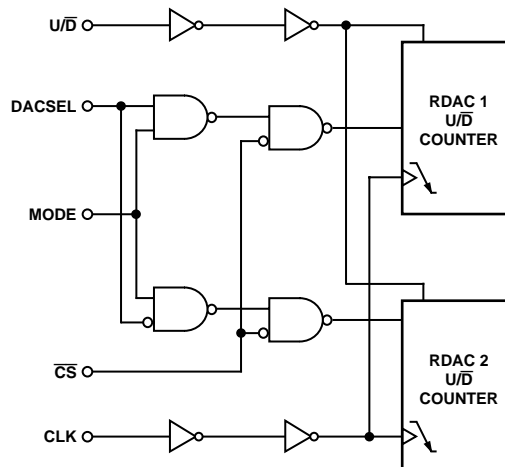

Figure 30. Detailed Digital Logic Interface Circuit
The AD5222 contains a push-button controllable interface. The active inputs are clock (CLK), $\overline{\text{CS}}$ and up/down ($\text{U}/\overline{\text{D}}$). While the MODE, and DACSEL pins control common updates or individual updates. The negative-edge sensitive CLK input requires clean transitions to avoid clocking multiple pulses into the internal UP/DOWN counter register, Figure 30. Standard logic families work well. If mechanical switches are used for product evaluation a flip-flop or other suitable means should debounce them. When $\overline{\text{CS}}$ is taken active low, the clock begins to increment or decrement the internal up/down counter, dependent upon the state of the $\text{U}/\overline{\text{D}}$ control pin. The UP/DOWN counter value (D) starts at 40_{H} at system power ON. Each new CLK pulse will increment the value of the internal counter by 1 LSB until the full-scale value of 7F_{H} is reached, as long as the $\text{U}/\overline{\text{D}}$ pin is logic high. If the $\text{U}/\overline{\text{D}}$ pin is taken to logic low, the counter will count down, stopping at code 00_{H} (zero-scale). Additional clock pulses on the CLK pin are ignored when the wiper is at either the 00_{H} position or the 7F_{H} position. The detailed digital logic interface circuitry is shown in Figure 30.